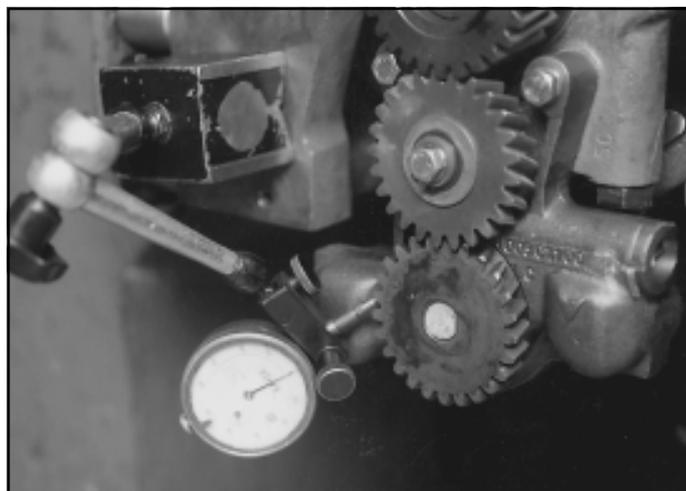

Fig.9-50
- Set dial gauge pointer on a tooth of the gear required to be checked. Fig.9-50